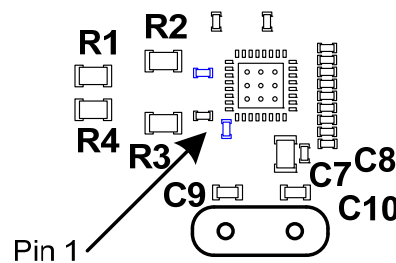

Figure No. 3
2. These caps are shown as C7 & C8 in Figure No. 3 below.
1. Place the 25.000 MHz crystal and the associated 15 – 33 pF capacitors as close together as possible and as close to the LAN8710 QFN (XTAL1, pin 5 & XTAL2, pin 4) as possible. They should form a tight loop. Keep the crystal circuitry away from any other sensitive circuitry (address lines, data lines, Ethernet traces, etc.). Refer to Figure No. 3 for crystal component placement (C9 & C10).